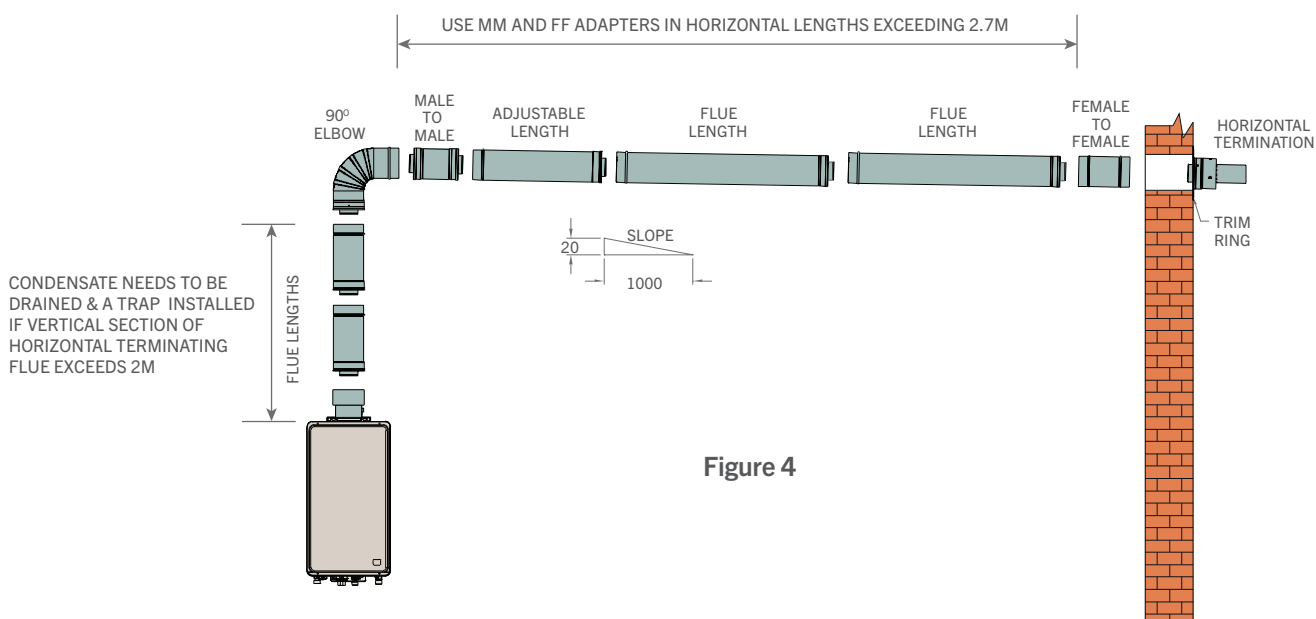

Figure 4
slope towards the terminal to drain any condensate which may form in the flue way and prevent any rain from draining into the flue/building. A condensate tube and trap assembly **MUST NOT** be connected, see Fig 4
- Where vertical sections exceeding 2m are incorporated in a through the wall flue system, Condensate tube and trap assembly **MUST** be used, see Fig 4
These adapters reverse the direction of the flue insertion and allow condensate to drain to the horizontal terminal without any obstruction/pooling, see Fig 4.